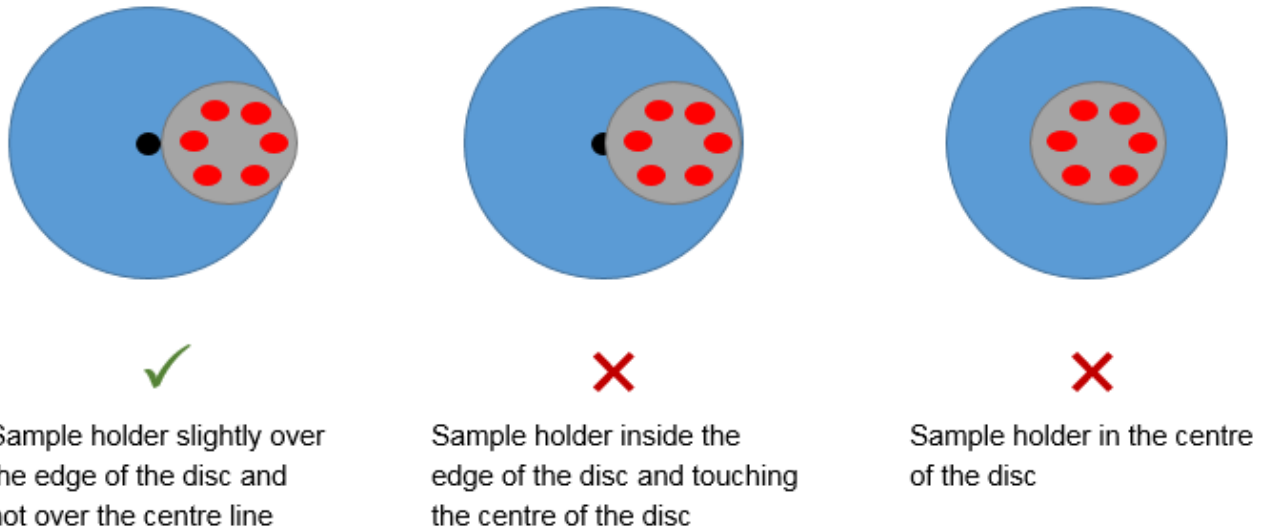

FIGURE 8: CORRECT POSITIONING OF THE SPECIMEN HOLDER.
- The specimen holder should be slightly over the edge of the disc and not over the centre line (figure 8).